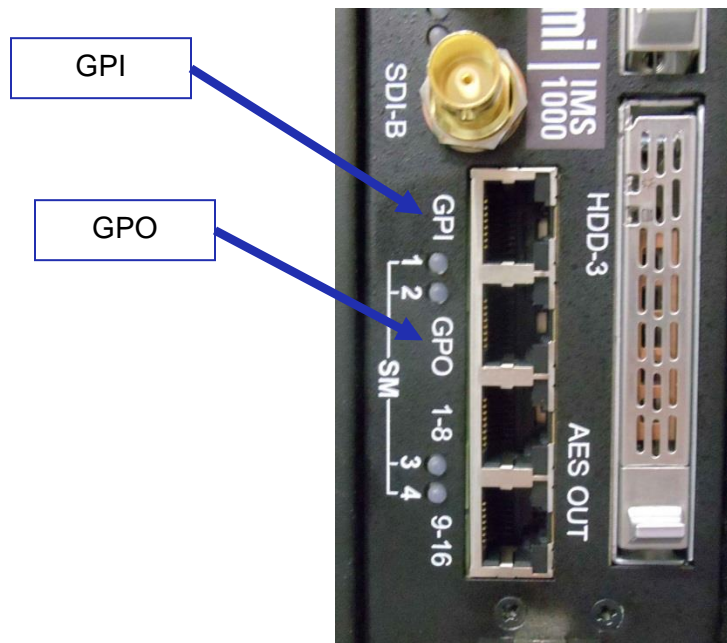

Figure 74: GPI/GPO Connectors
- Plug one shielded CAT5 or CAT6 cable end into the connector labeled GPI on the IMS1000 board (Figure 74). Install a ferrite core clamp near the connector closest to the IMS1000. Refer to Section 25 for more information on ferrite core clamp installation.
- Take another shielded CAT5 or CAT6 cable and plug the end into the IMS1000 connector labeled GPO (Figure 74). Install a ferrite core clamp near the connector closest to the IMS1000. Refer to Section 25 for more information on ferrite core clamp installation.